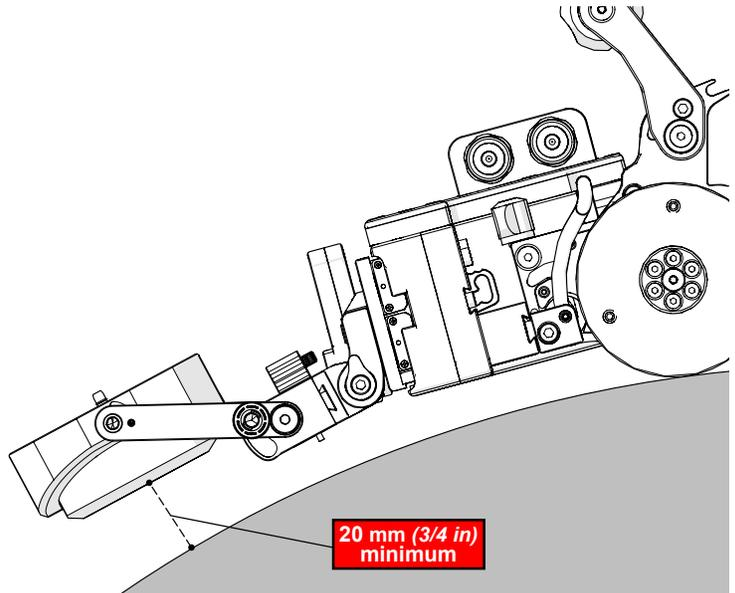

Fig. 71 - Latch pivot nose
7. Lower the probe holder to roughly 20 mm ($\frac{3}{4}$ in) above the scan surface (Fig. 71), and latch the Raster Arm HT pivot nose at this position.